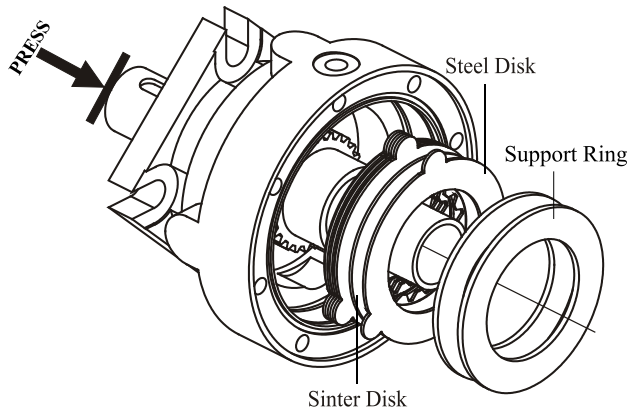

Fig.4
9. Remove from housing whole assembly contained shaft, inner rims of front and rear bearings, steel disks, sinter disks and support rings (see Fig.4). Separate the rims from shaft. Check the friction elements for defects (availability of wearing marks and checking the weight) and replace with new ones.